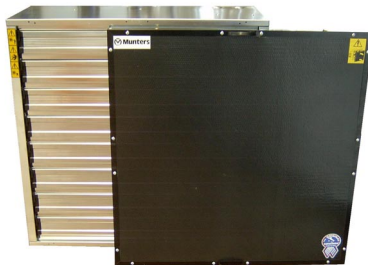

Figure 6
5. Use a hammer and centre punch and punch the location of all 8 screws as indicated in Figure 6.